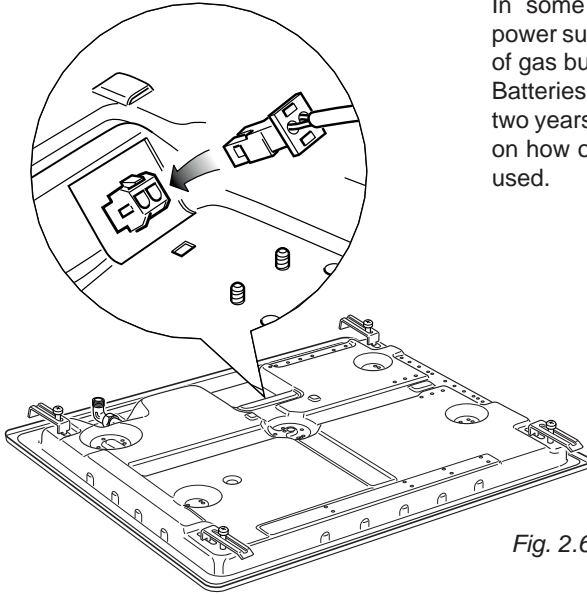

Fig. 2.6
- Connect the battery cable plug to the socket as indicated in figure 2.6.